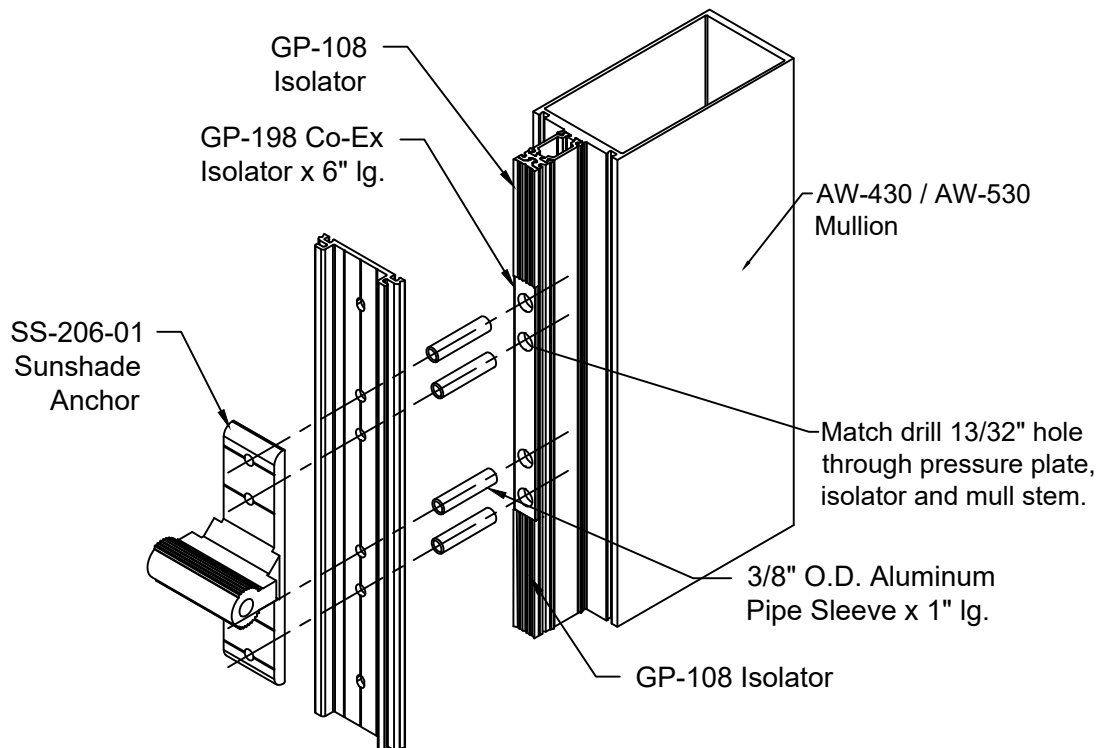

FIGURE 3
- 1) After glass has been installed into the Reliance & Reliance-TC Type II curtain walls, install the vertical pressure plates. Locate the SS-206-01 sunshade anchor at the face of the WW-284 pressure plate and match drill through pressure plate, GP-197 (GP-198) dual-durometer isolator and front wall of the mullion stem using a .281 drill bit. On Reliance-TC Type II you will drill out the mullion stem using a 13/32" hole and insert a 3/8" O.D. pipe sleeve for added support. SEE FIGURE 2. NOTE: Anchor is handed so must be installed based on project specified blade angle. See page 25 for installation information for blade angles. SEE FIGURE 1 page 4 and FIGURE 3 page 5